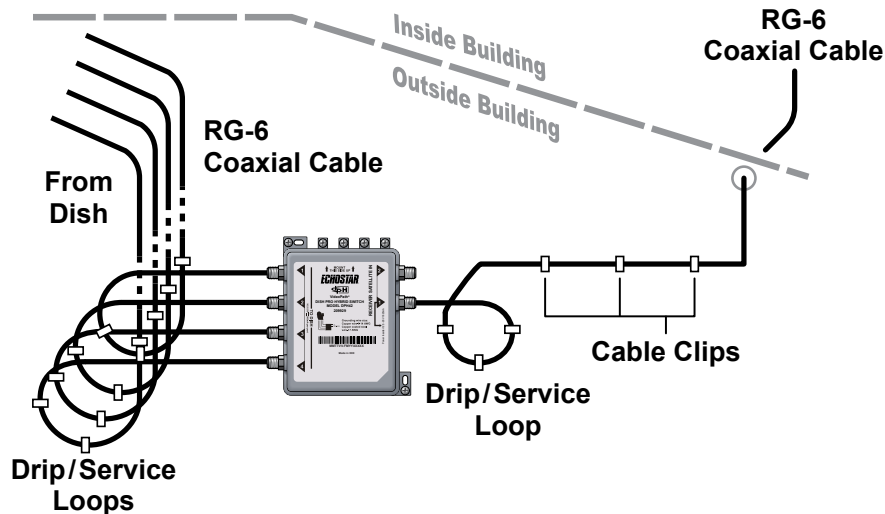

Figure 1: Horizontal Switch Mounting
- 2 Mount the DPH42 Switch onto a sturdy structure, such as the side of a building. Make sure that the mounting location is stable and that you fasten the switch tightly to the surface using suitable hardware for the mounting surface. See Figures 1 and 2 below for mounting examples.